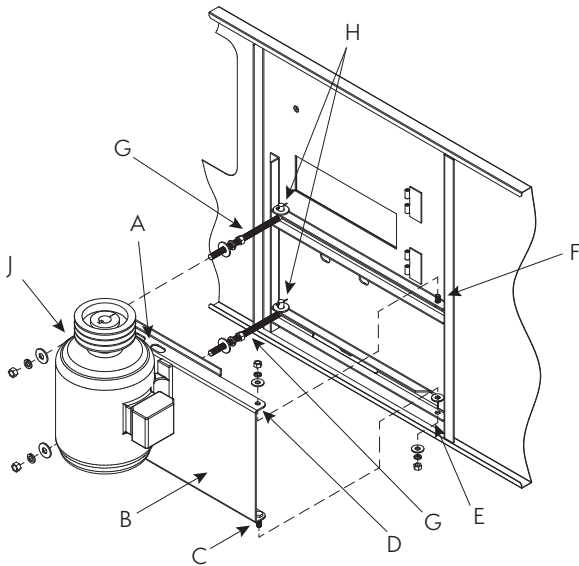

Figure 18a – External Motor Installation
All units narrower than 10' (3 m) wide have their motors installed outside the unit in a shaft up configuration as shown in figures 18a and 18b below. Due to shipping width restrictions, these motors cannot ship mounted on the units since they would extend past the width of the truck. For this reason, the motor(s), motor base(s), motor guard(s), J-bolts, pivot pins and belt(s) are shipped in the cold-water basin of the cooling tower. Please follow the step-by-step instructions below to properly install these components.
1. Study Figure 18a above before installing the motor base on the unit.